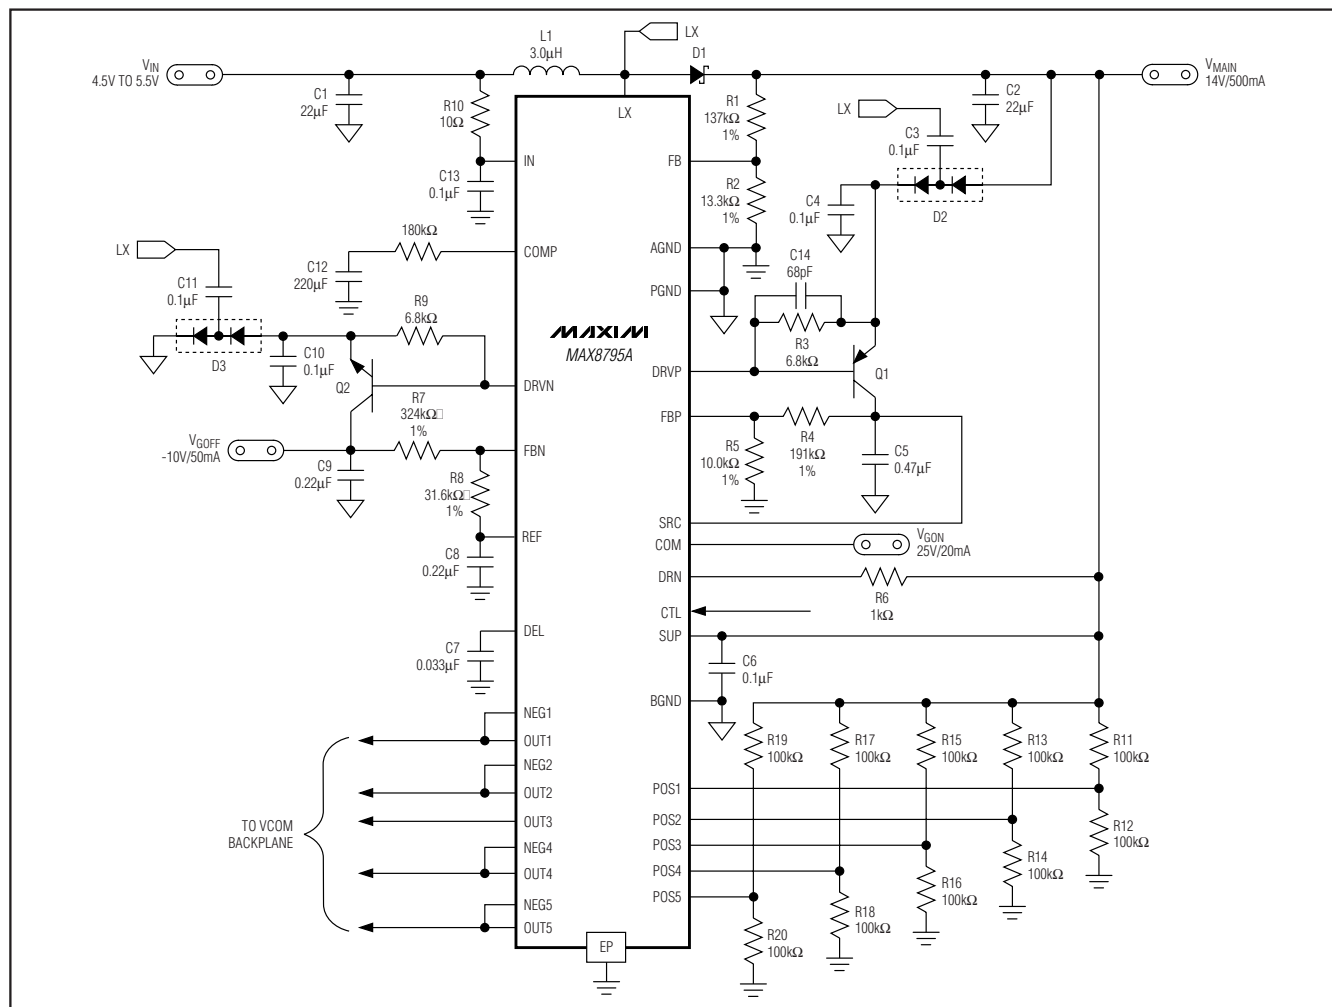

Figure 1. Typical Operating Circuit
(Circuit of Figure 1, $V_{IN} = 5V$, $V_{MAIN} = 14V$, $V_{GON} = 25V$, $V_{GOFF} = -10V$, $T_A = +25^\circ C$, unless otherwise noted.)
The MAX8795A typical operating circuit (Figure 1) is a complete power-supply system for TFT LCDs. The circuit generates a +14V source-driver supply and +25V and
-10V gate-driver supplies. The input voltage range for the IC is from +2.5V to +5.5V. The listed load currents in Figure 1 are available from a +4.5V to +5.5V supply. Table 1 lists some recommended components, and Table 2 lists the contact information of component suppliers.
The gate-off linear-regulator controller (REG N) is an analog gain block with an open-drain p-channel output. It drives an external npn pass transistor with a 6.8k Ω base-to-emitter resistor (Figure 1). Its guaranteed base-drive source current is at least 1mA. The regulator including Q2 in Figure 1 uses a 0.47 μ F ceramic output capacitor and is designed to deliver 50mA at -10V. Other output voltages and currents are possible with the proper pass transistor and output capacitor (see the *Pass-Transistor Selection* and *Stability Requirements* sections).
REG N is typically used to provide the TFT-LCD gate drivers' gate-off voltage. A negative voltage can be produced using a charge-pump circuit as shown in Figure 1. REG N is enabled after the voltage on REF exceeds 1.0V. Each time it is enabled, the control goes through a soft-start routine that ramps down its internal reference DAC from VREF to 250mV in 128 steps.